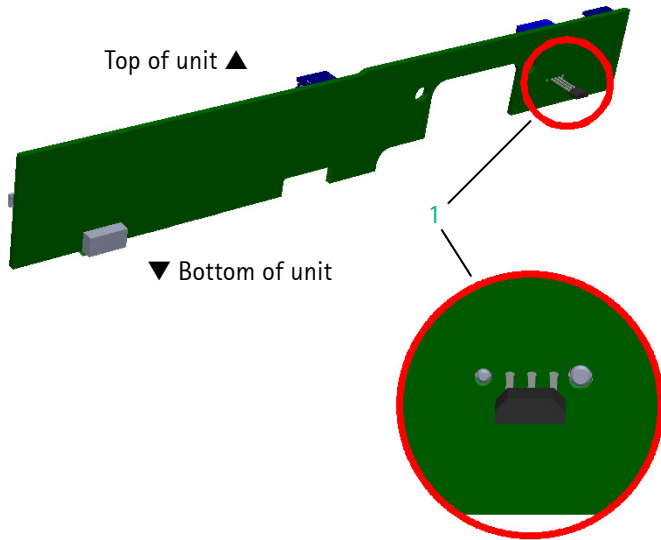

Fig. 3 - 39
7. Mount the new ESD wire (Fig. 3 - 38 / Item 3) if it has to be replaced.